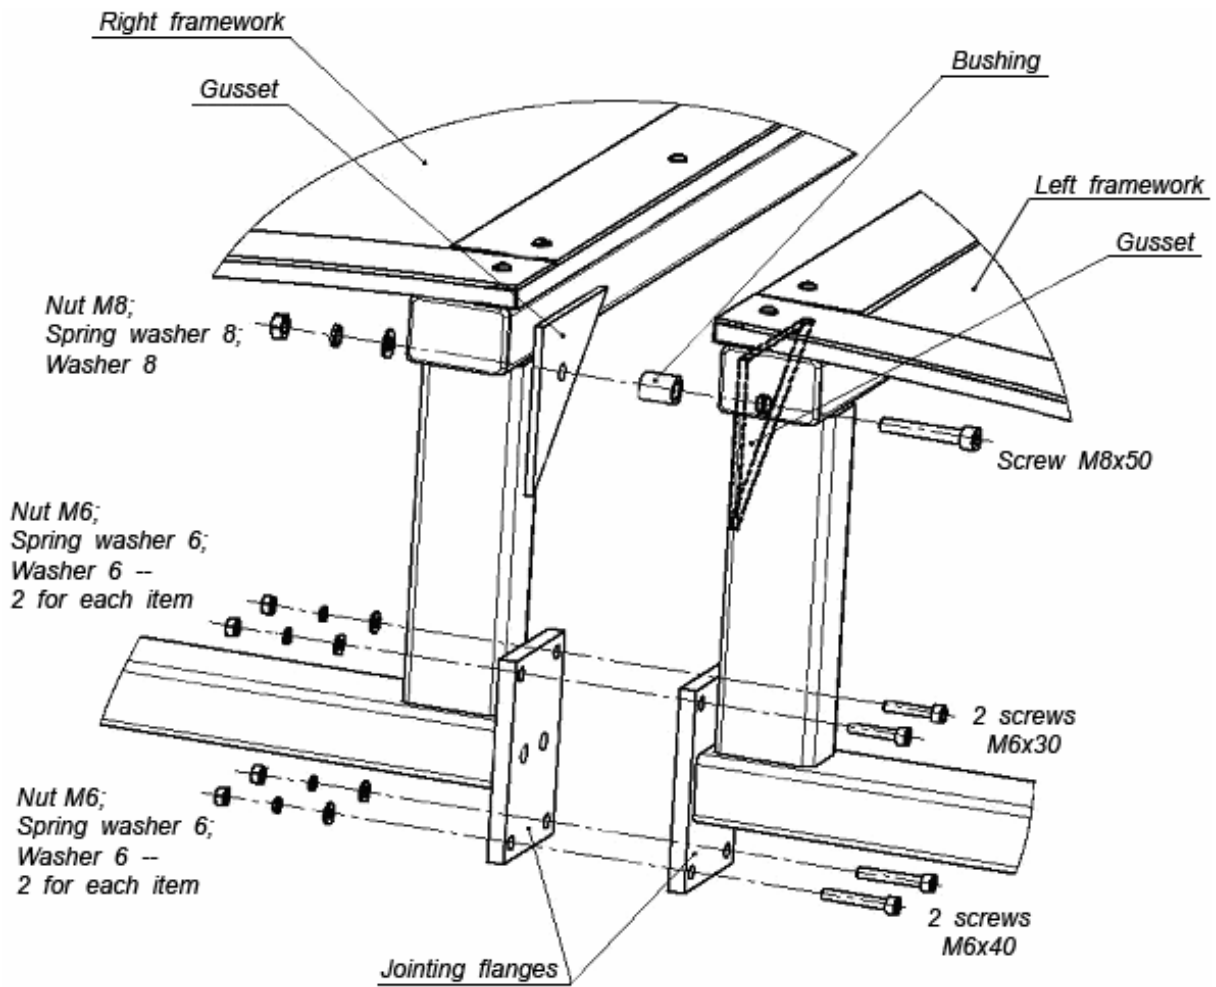
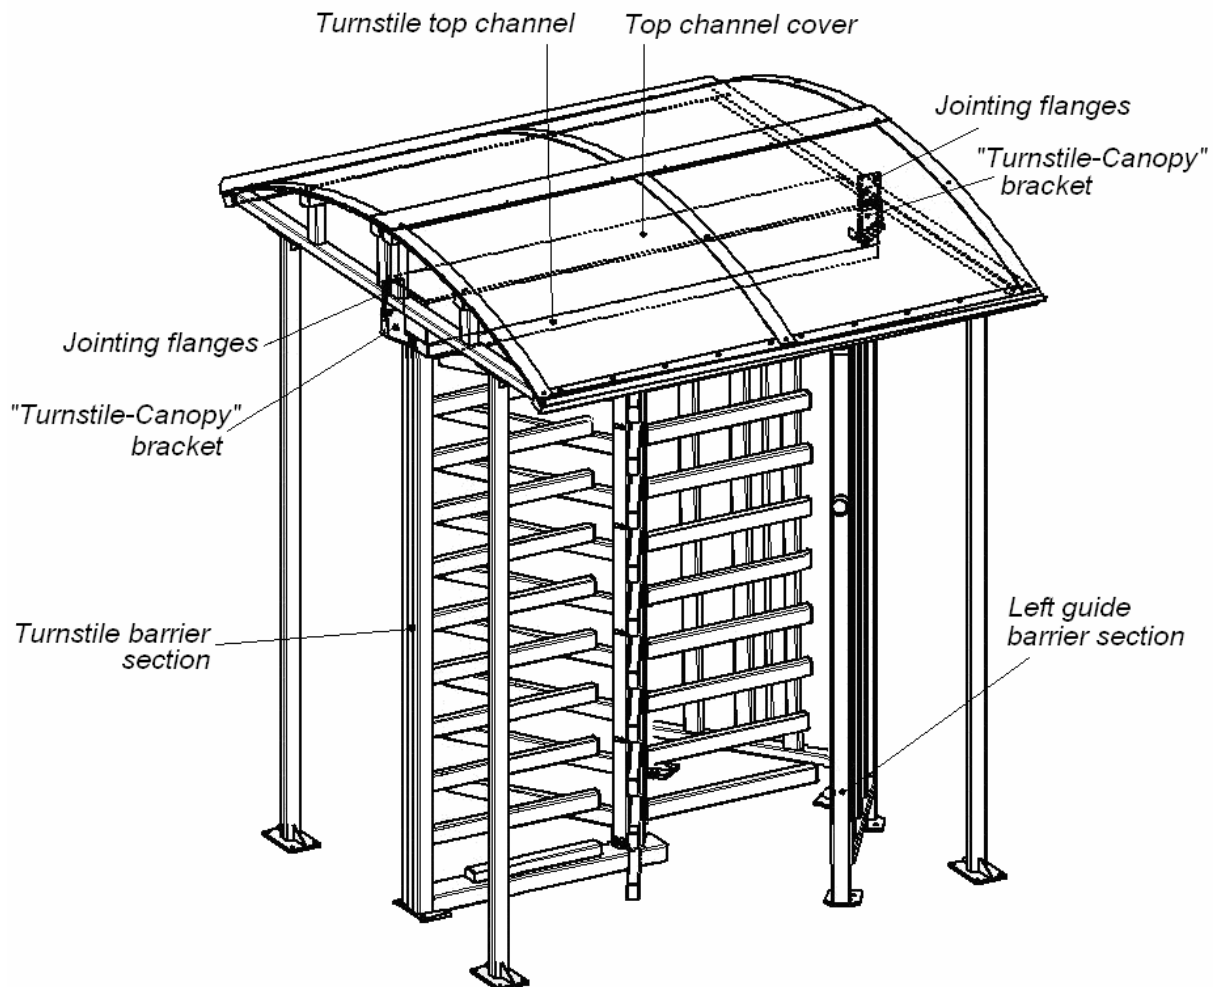

Figure 5. Juncture of the roof sections (1) and (2)
Fig. 8 Positioning of the «Turnstile-Canopy» brackets between the canopy jointing flanges (6) and the turnstile top channel
* The bushing and gussets are also shown in Fig. 5
8.3.6 Put the screw M8×45, through the hole in the left roof section gusset from inside, take the bushing on the screw. Put the screw inside the hole in the right roof section gusset (Fig. 5). Fix the screw by the nut M8 with two washers from inside the right roof section. Fix the other side gussets together. Do not tighten the screws.
8.3.7 Tie the jointing flanges together by fittings shown in Fig. 5. Do not tighten the screws.
8.3.14.2 Unscrew two bottom screws M6×40 with nuts and washers (Fig. 8) from the canopy jointing flanges on the side of the turnstile barrier section (Fig. 5);
8.3.15 In the same way, mount the «Turnstile-Canopy» bracket from the side of the turnstile guide barrier set (Fig. 8).